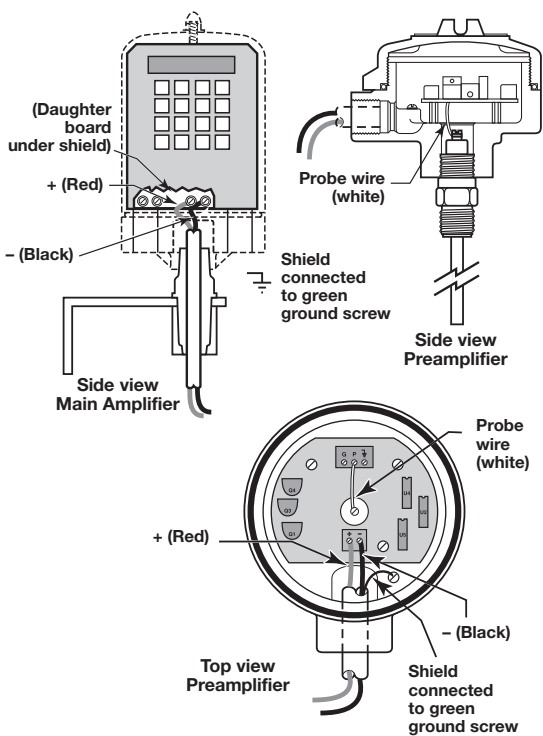

Figure 4
Remote amplifier assemblies are normally shipped from the factory assembled into an "L" mounting bracket. To install amplifier assembly, proceed as follows. Refer to Figure 4.
5. Route the twisted shielded pair cable up through the housing base as shown in Figure 4 on page 5.
7. Attach the twisted pair to the connection screws on the daughter board (refer to Figure 4 on page 5) as follows:
2. Tighten securely, making certain that the wrench is applied only to the lower probe nut. Refer to Figure 4 on page 5.
5. Attach the twisted pair to the remote KISO board (refer to Figure 4 on page 5) as follows: